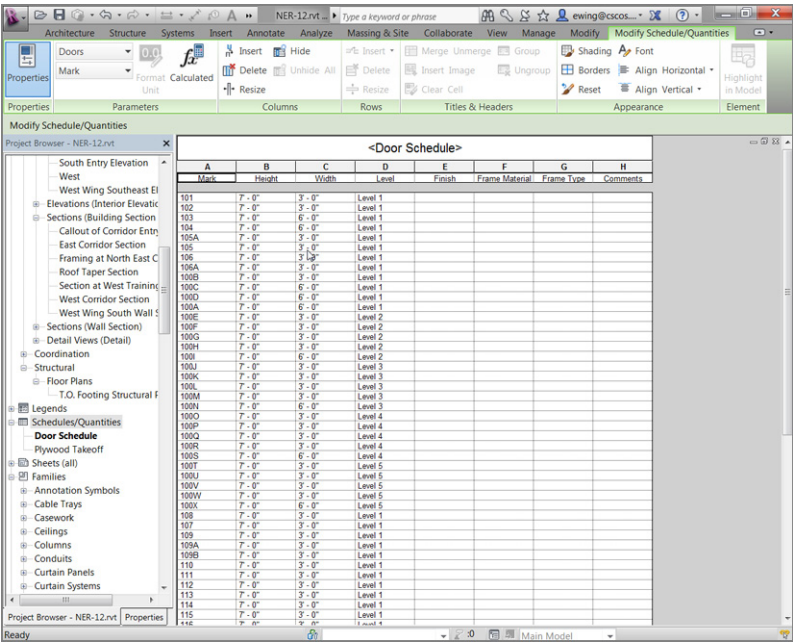

FIGURE 11.4 : The door schedule up to this point
- 6. Click OK. Your schedule should be similar to Figure 11.4.